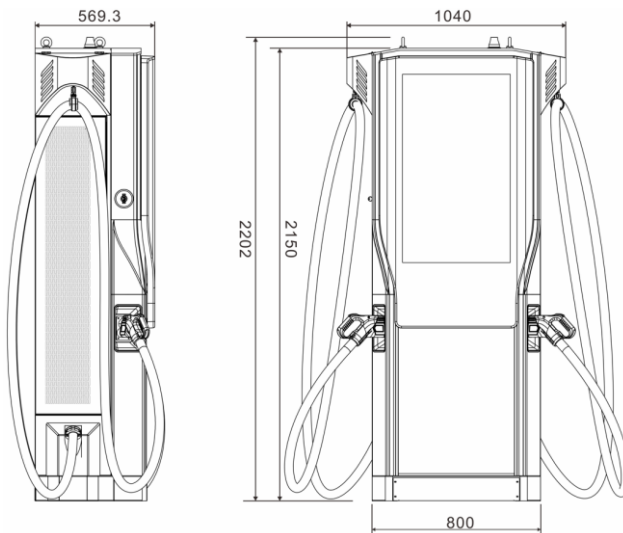

Fig. 4-1 The shape & dimensions of Ampax
- The shape & dimensions of Ampax DC Fast charging station shown as Fig. 4-1.